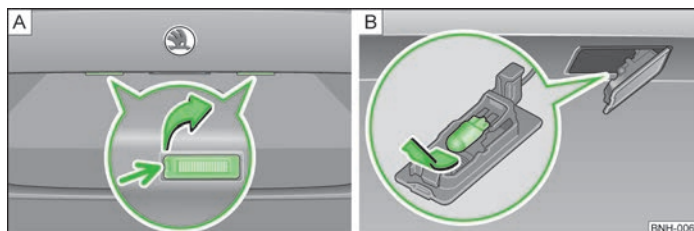

Fig. 132 Remove the number plate light/replace the bulb
- Insert a flat screwdriver at the location indicated by the arrow » Fig. 132 - [A], press it in lightly, and unlatch the springs.
- Pull the faulty bulb out of the holder in the direction of the arrow » Fig. 132 - [B].